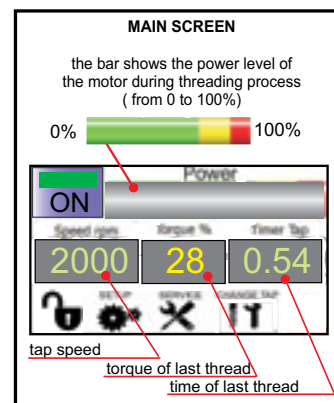

FIG. 12
**During the threading process, the display in the panel (FIG. 12) always shows:**